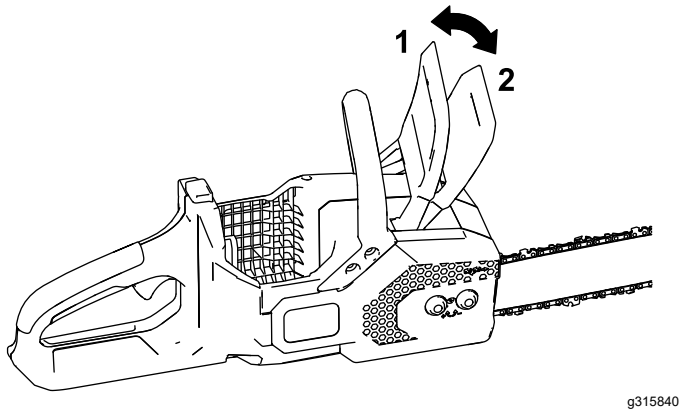

Figure 28
1. Engage the chain brake by moving the chain brake forward to the STOP position (Figure 28).
4. Disengage the chain brake by moving the chain brake rearward to the OPERATING position (Figure 28).
4. Ensure that the chain brake is in the OPERATING position (Figure 28).